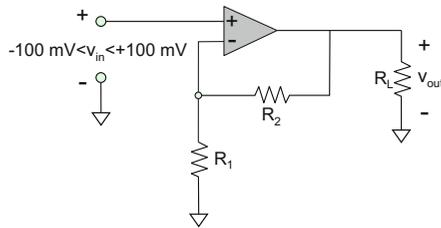

Fig. 5.16. A non-inverting amplifier with unknown resistance values.
**Example 5.4:** A non-inverting amplifier circuit with a gain of 11 is needed in the configuration depicted in Fig. 5.16. Identify one set of proper resistance values.